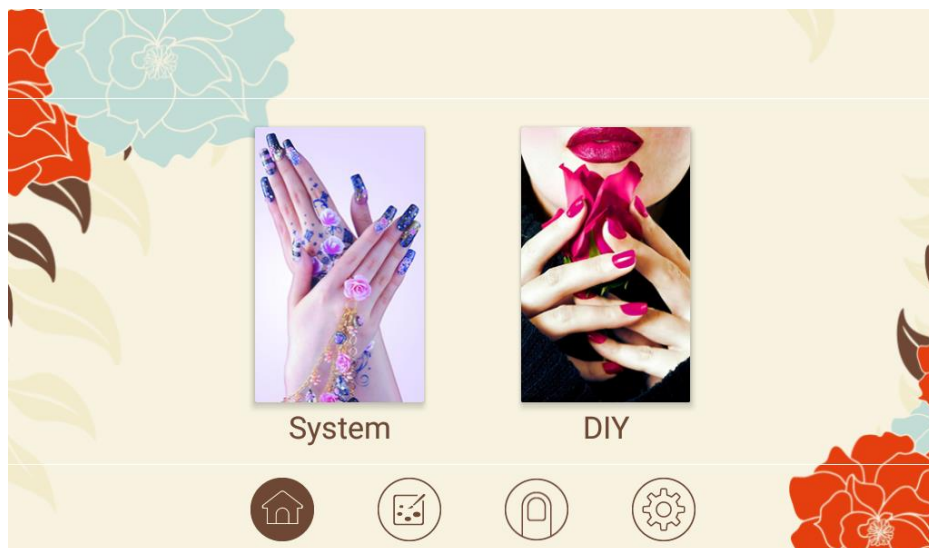

Figure 1
(1) start the software and enter the homepage, as shown in the following figure 1: file 'System' contains gallery of the system while file 'DIY' contains customized gallery.